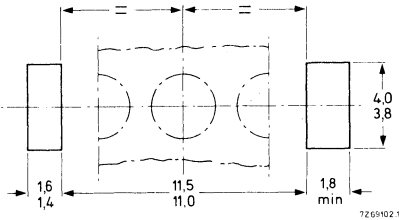

Fig. 1 Heatsink requirements.
2. Push the short end of the clip into the narrow slot in the heatsink with the clip at an angle of  $10^\circ$  to  $30^\circ$  to the vertical (see Figs 1 and 2).